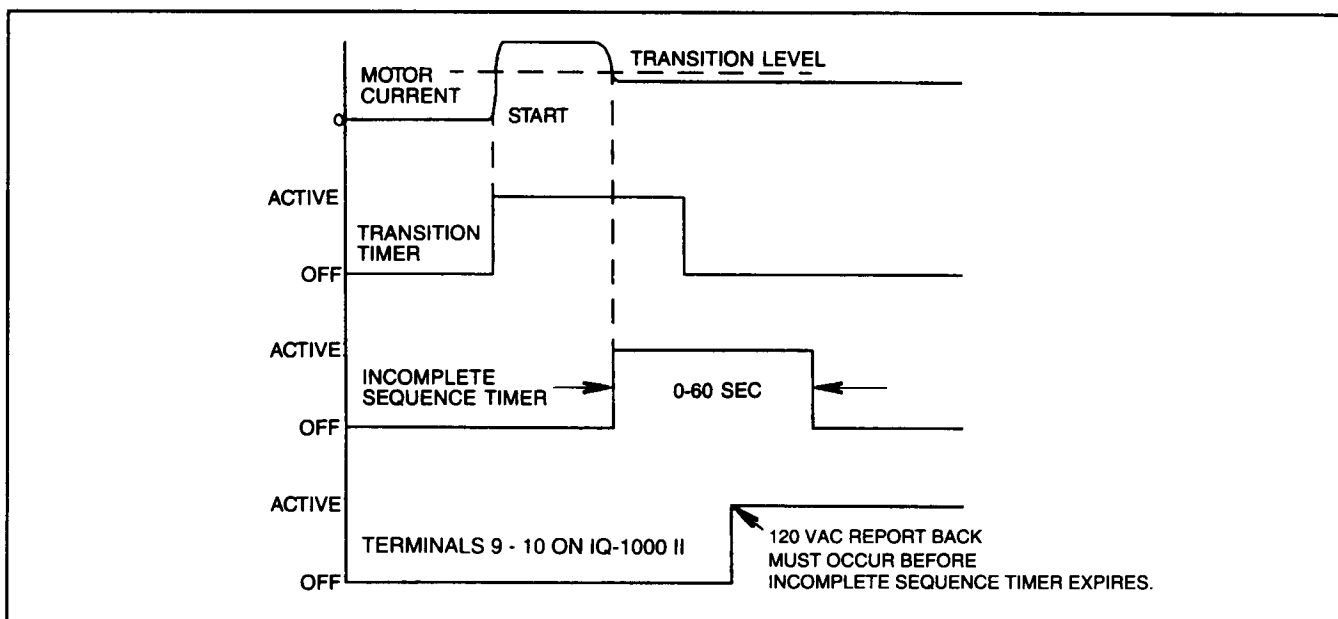
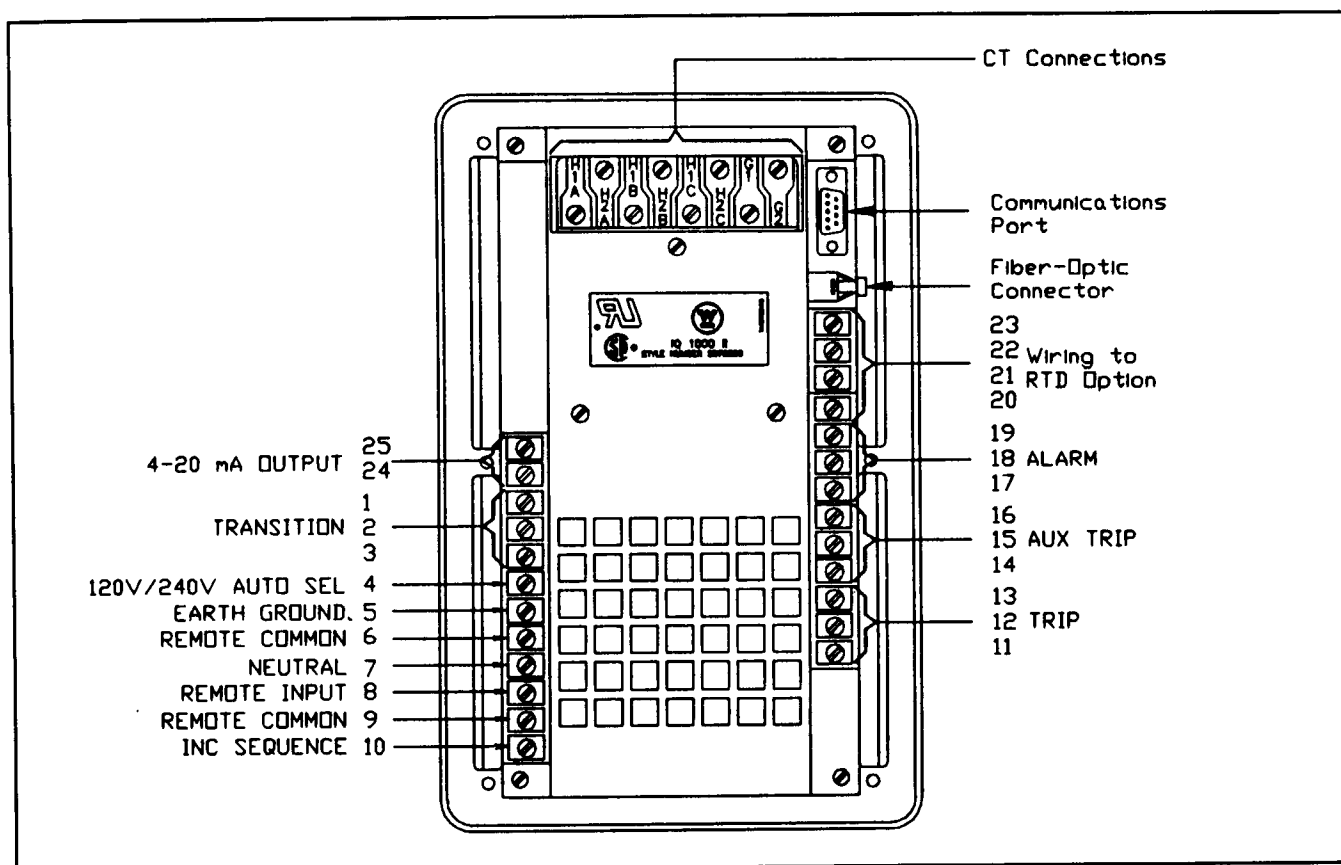

Figure 8.2 — Incomplete Sequence Timing
Figure 8.3 — IQ-1000 II Terminals
**8.16 Setpoint Item 40, Incomplete Sequence Time** — The incomplete sequence time (in seconds) operates in conjunction with the incomplete sequence terminals on the rear of the IQ-1000 II (terminals 9 and 10, see Figure 8.3). As the IQ-1000 II enters the RUN mode, the incomplete sequence timer starts its count. If the timer runs out (i.e., the time programmed at menu item 40 expires) before 120 VAC has been received across terminals 9 and 10, then the IQ-1000 II will generate a trip condition and will display the message "INC SEQ." If 120 VAC is received at terminals 9 and 10 before the timer runs out, the IQ-1000 II will acknowledge the signal, and the 120 VAC is no longer monitored. The timing cycle of events is shown in Figure 8.2.
**8.23 Setpoint Item 47, 4-20 mA Output Signal** — The IQ-1000 II provides a 4-20 mA analog output signal at terminals 23 and 24 on the rear of the IQ-1000 II (see Figure 8.3). This signal can be input into an ammeter or programmable controller for external manipulation of parameters monitored by the IQ-1000 II.
The IQ-1000 II has one programmable form-C relay, the Auxiliary Trip relay. This relay can be programmed to activate only on certain trip conditions. This relay is labeled as terminals 14, 15 and 16 on the rear of the IQ-1000 II (see Figure 8.3). The following trip states can be programmed for the Auxiliary Trip relay: